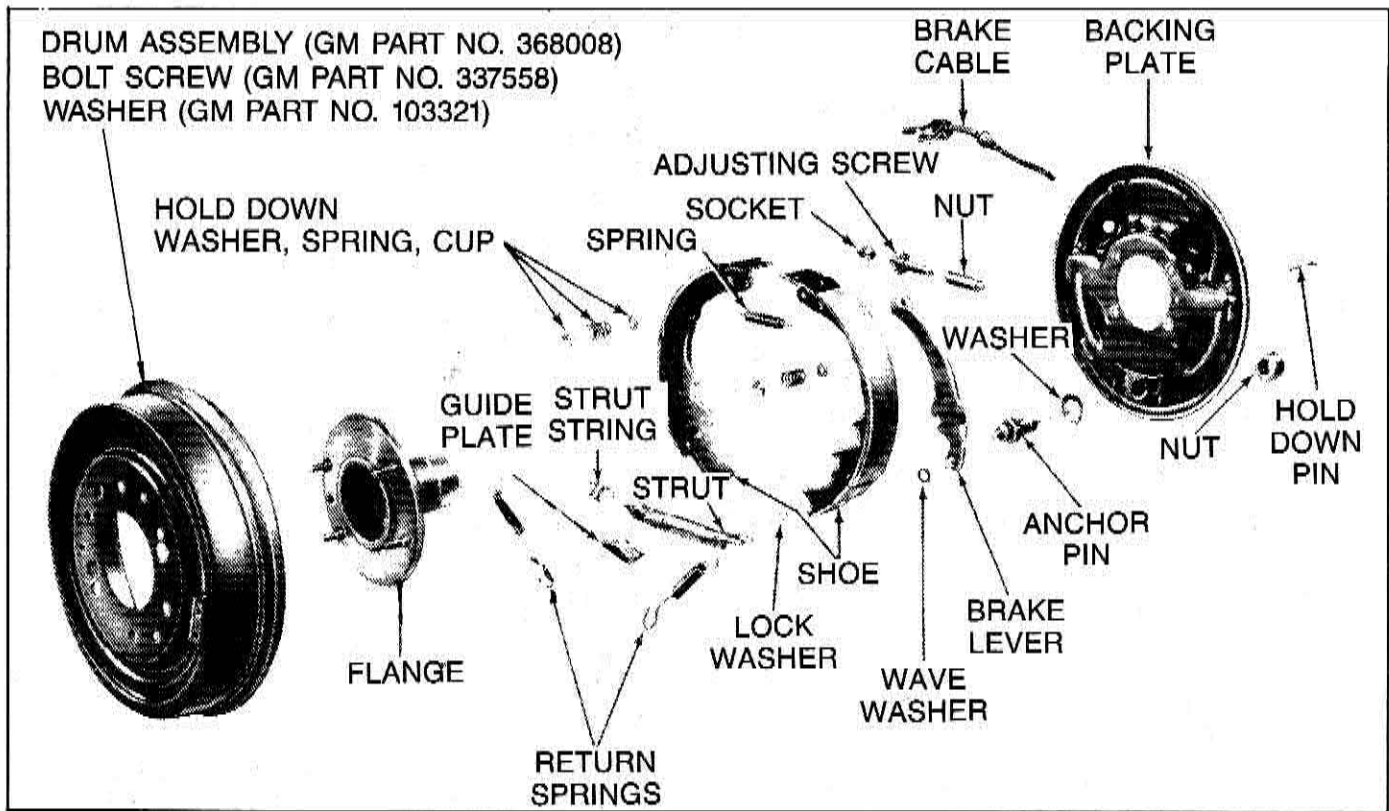

Figure 6-9 — Propeller Shaft Drum Brake
4. Retest as in Step 1. If the vibration is gone, replace the drum. (See Figure 6-9.)
Refer to Figure 6-9.